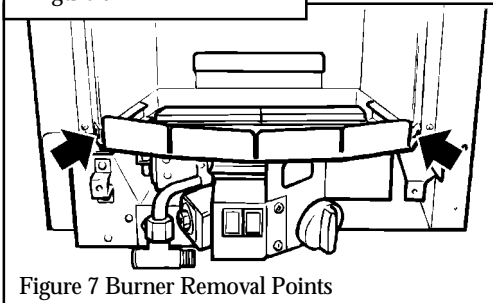

Figure 7 Burner Removal Points
4.3.3 In the majority of cases temporary removal of mains cable will make connection to the isolating switch easier. To allow this, the burner unit will need to be detached. Detach the burner unit from the convection box by removing two screws (see figure 7).